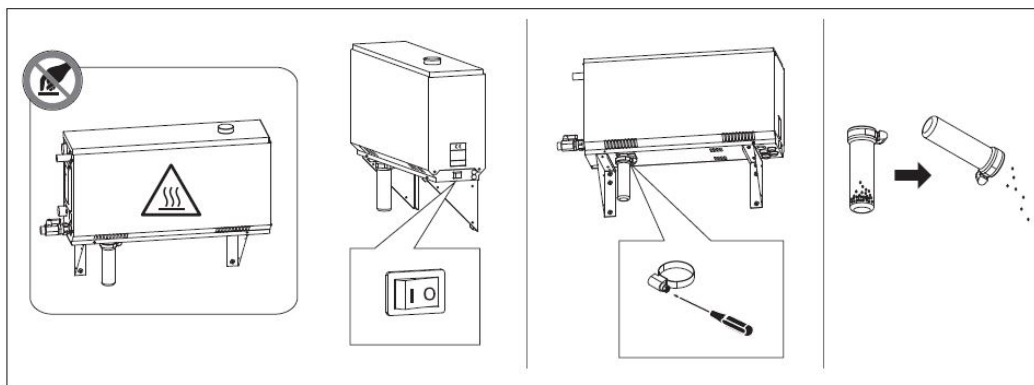

Figure 2. Sediment cup emptying
2. Turn the steam generator off from the main switch (figure 2).
3. Turn it off from the main switch (see figure 2).